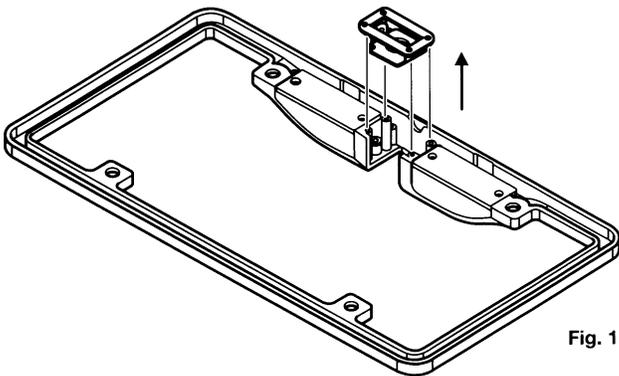

Fig. 1
1. Remove the 4 screws from the camera mounting bracket. (Fig. 1)